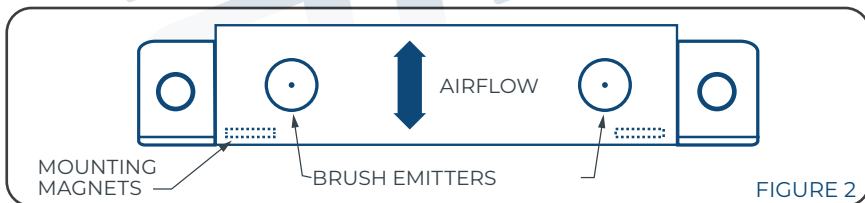

FIGURE 2
2. Insure that air flows over the two brush emitters simultaneously. (See Figure 2).